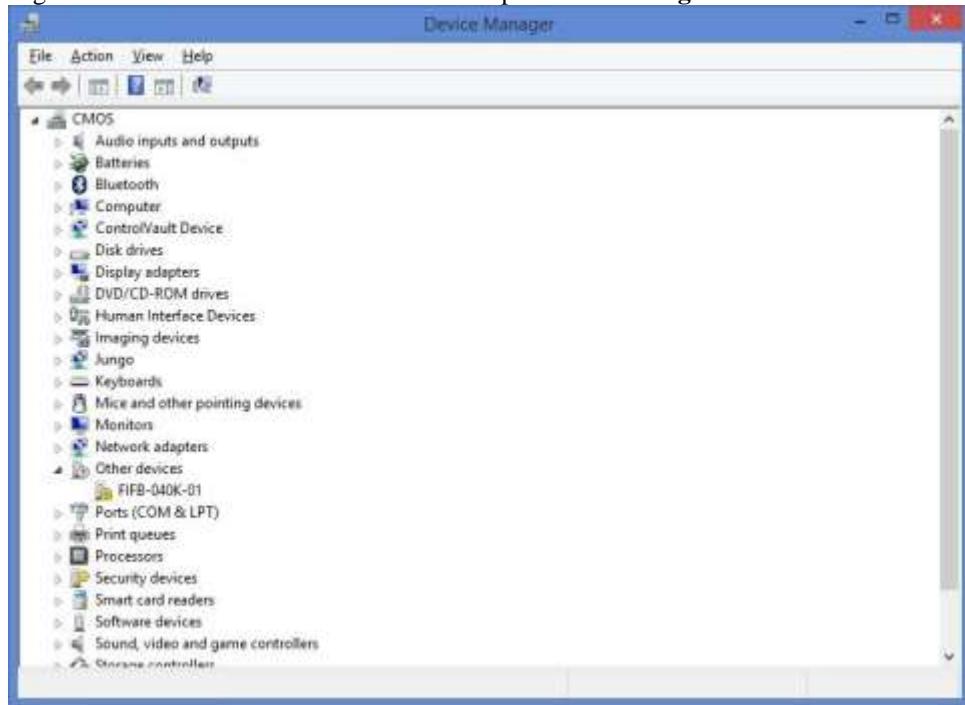

Figure 6
11. Right click on "FIFB-040K-01" and Select "Update driver". **Fig. 6**